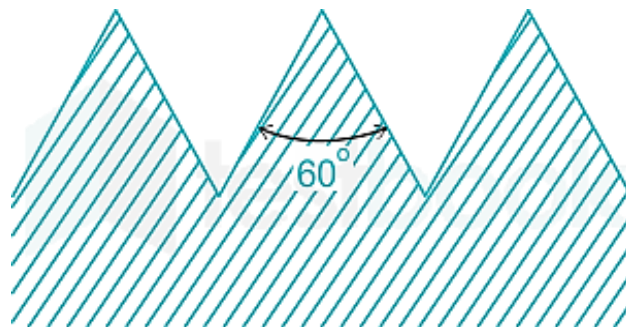

Fig. 2.30: V Threads
- V threads are the most commonly used type of threading, characterized by a V shaped profile with a 60° included angle (Fig. 2.30).